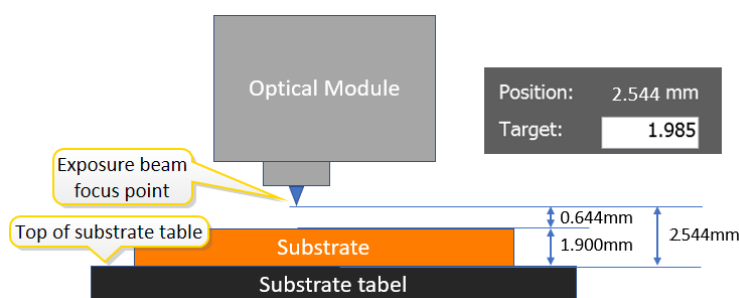

Figure 3-17 Writing Module motorized height adjustment
13. At **Position** (Figure 3-16), check the actual distance between the Writing Module and the substrate table and compare it to the known substrate height, see Figure 3-17.